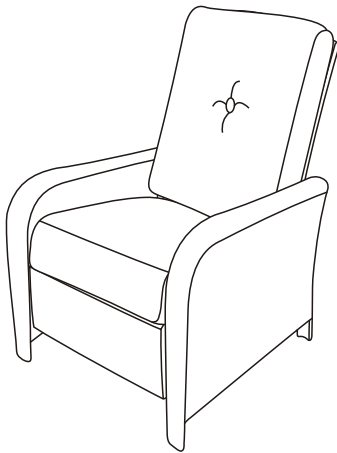
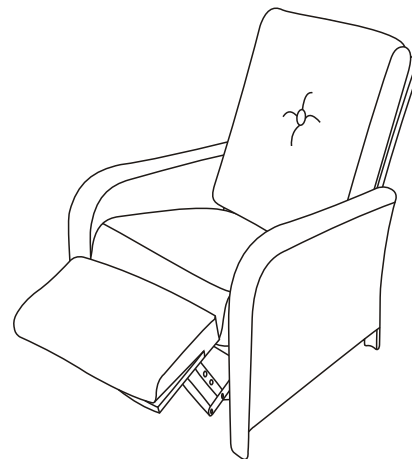
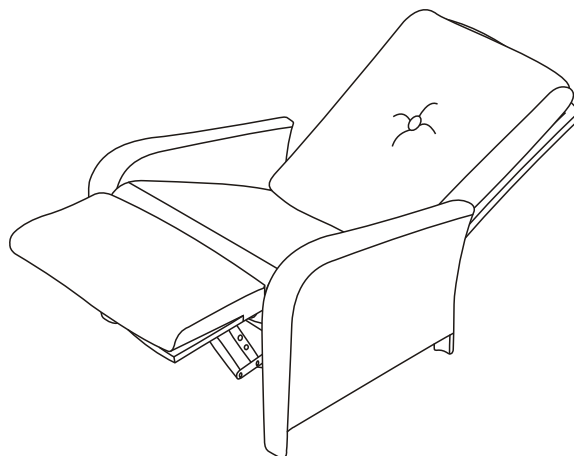

Figure 4 (the closed position)
Figure 5 (the 1st position)
Figure 6 (the 2nd position)
- 1. The recliner chair is equipped with a two-position locking leg rest for customized seating comfort. Simply put physical strength on the back and armrest to extend the recliner mechanism. You may stop in any one of two positions. The closed position is for relaxing reading(Figure 4). The 1st position is slightly inclined for comfortable viewing(Figure 5). The 2nd position is slightly more incline for comfortable sleeping(Figure 6).**